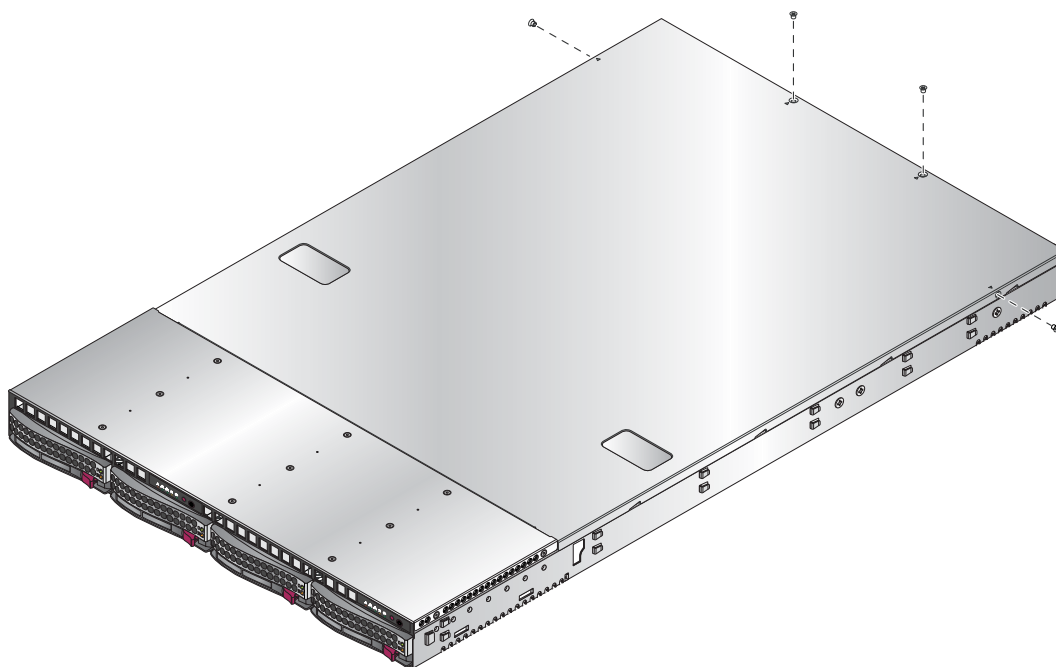

Figure 4-1 Remove the Top Cover
1. Access the inside of the system (refer to Figure 4-1):